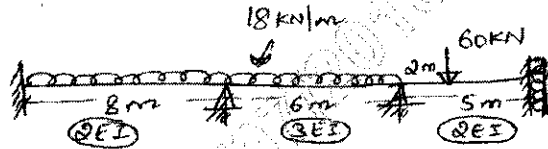

Fig.Q.5
- 5 Analyze the continuous beam by stiffness matrix method using transformation approach. Refer Fig.Q.5. (16 Marks)